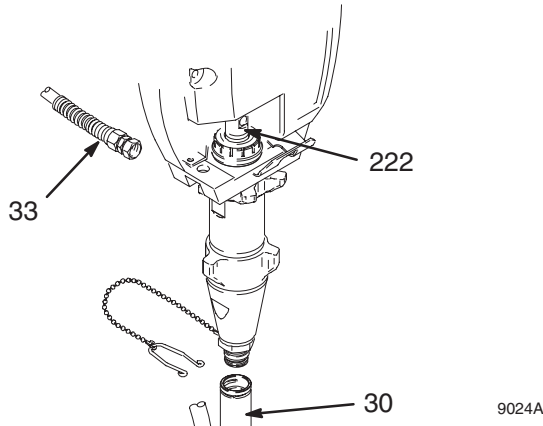

Fig. 16
2. Fig. 16. Cycle pump with piston rod (222) in lowest position.
4. Fig. 16. Remove suction tube (30) and hose (33).